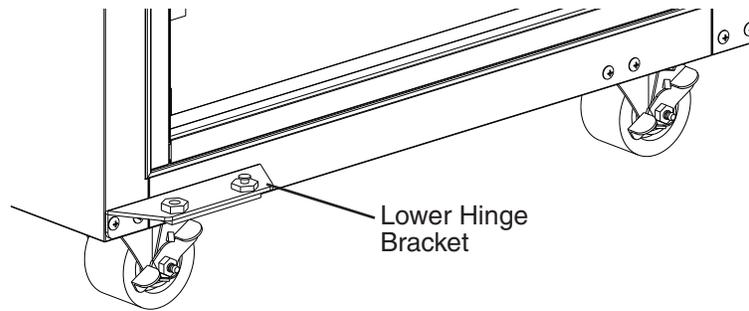

Fig. 45
- 13) Place and secure the new lower hinge bracket in its correct position on the cabinet. See Fig. 45.